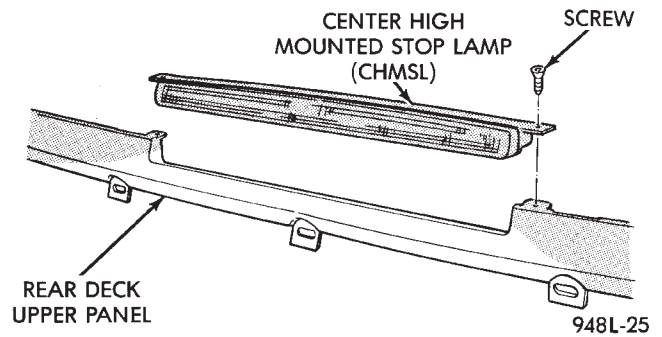

Fig. 7 Center High Mounted Stop Lamp (CHMSL)
- (1) Release trunk latch and open trunk.
- (2) From under rear deck panel, disengage CHMSL wire connector from body harness.
- (3) Remove rear deck upper panel.
- (4) Remove screws holding CHMSL to rear deck upper panel (Fig. 7).
- (5) Separate CHMSL from rear deck upper panel.